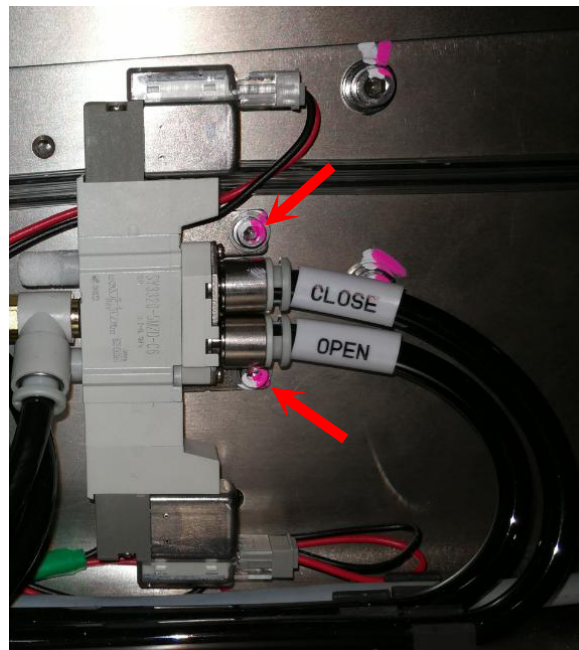

Figure 8 Fix Rail Clamper Pneumatic Valve Assembly
11. Assemble “S2EX Clamper Controller Kit” at Fix Rail Clamper Pneumatic Valve Location. Tighten 2 x Screws as below Figure 8